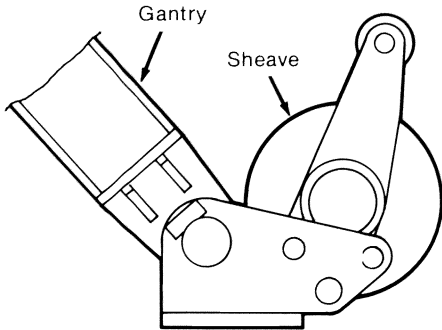

Figure 5. Sheave Arrangement (Gantry in working position)
(See Figures 5, 6, 7 and 8)
1. When the crane is equipped with a rear auxiliary drum and/or a boom hoist with external ratchet and pawl, the boom hoist reeving comes over the front of the crane through the sheave arrangement (see Figure 5) at the front of the gantry. (Refer to Boom Rigging Drawing for reeving diagram).